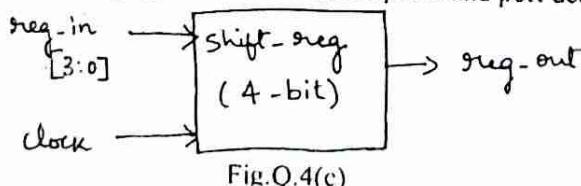

Fig.Q.4(c)
c. A 4-bit parallel shift register has I/O pins as shown in Fig.Q.4(c) below. Write the module definition for this module shift\_reg. Include the list of ports and port declaration. (04 Marks)